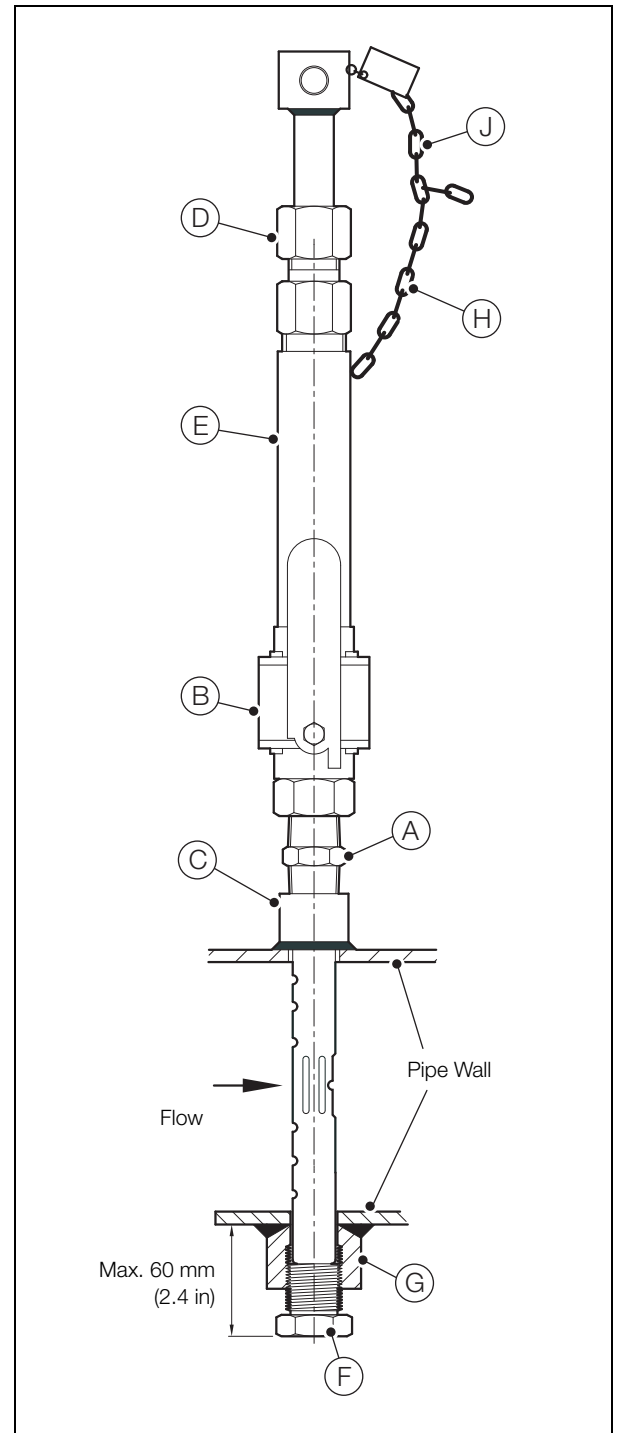

Fig. 2.11 Installation of Threaded Model FPD350.L7.E2
8. Referring to Fig. 2.11:
- a. Apply suitable sealant to the close nipple (A) and isolation valve (B) and fit them to the threaded fitting (C). Tighten securely.
- b. Ensure packing material is in place in packing gland (D).
- c. Fit pressure chamber (E), complete with packing gland (D), to isolation valve (B), using appropriate sealants where necessary.
- d. Fully open isolation valve (B) and insert the Torbar through the packing gland, isolation valve and process pipe until the tip exits at the opposite fitting.
- e. Apply appropriate sealant to the threads of support plug (F).
- f. Screw support plug (F) into threaded fitting (G) and tighten, ensuring that it contacts the Torbar.